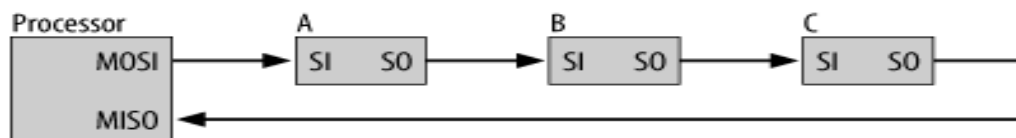

Figure 3: Interfacing Design
- (b) By referring to the interfacing design shown in Figure 3, answer the following questions: